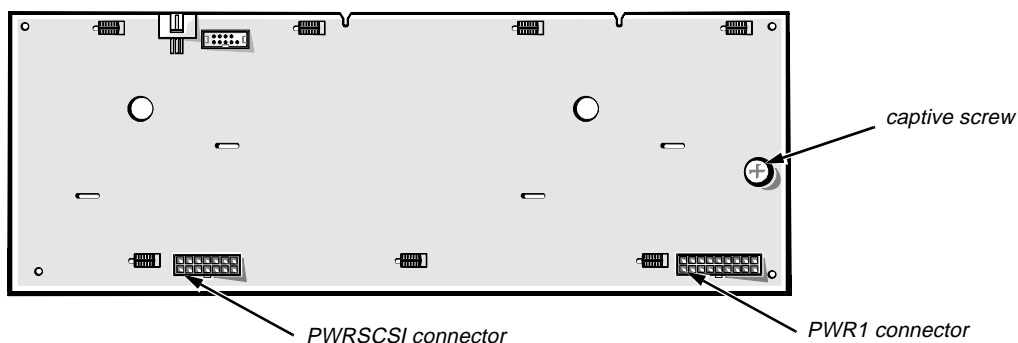

Figure B-9. Power-Supply Paralleling Board
5. Disconnect the power cable from the connectors labeled “PWRSCSI” and “PWR1” on the PSPB (see Figure B-9).
The 14-pin connector and 18-pin connector attach to the connectors labeled “PWRSCSI” and “PWR1,” respectively, on the PSPB (see Figure B-9). The 20-pin connector attaches to the POWER connector on the SCSI backplane board.